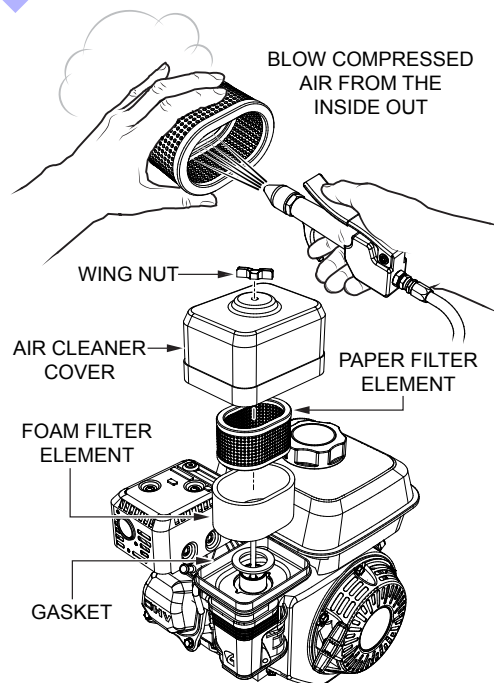

Figure 37. Engine Air Cleaner
1. Remove the air cleaner cover and foam filter element as shown in (Figure 37).
2. Tap the paper filter element (Figure 37) several times on a hard surface to remove dirt, or blow compressed air [not exceeding 30 psi (207 kPa, 2.1 kgf/cm²)] through the filter element from the air cleaner case side. **NEVER** brush off dirt. Brushing will force dirt into the fibers. Replace the paper filter element if it is excessively dirty.